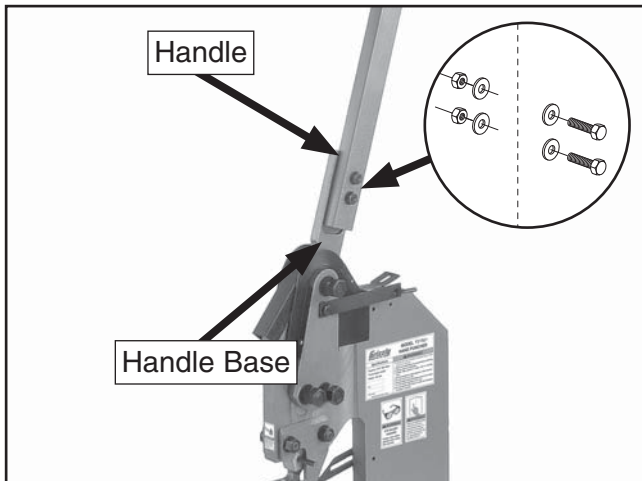

Figure 5. Attaching handle.
1. Attach the handle to the handle base with the M12-1.75 x 55 hex bolts, 12mm flat washers and M12-1.75 lock nuts, as shown in **Figure 5**.